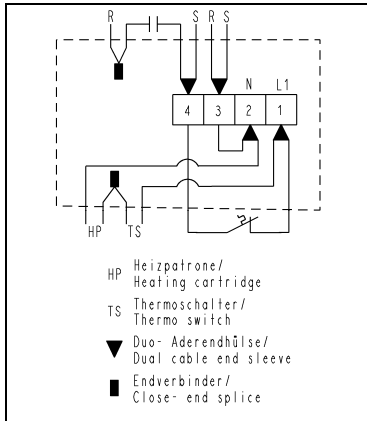

Fig. 3a: Electrical connection (.11-designs: with thermostat-regulated head heating) except for UN036_T.111)
3. Connect the mains cables to the connections L 1 and N of the terminal block (see figs. 3a, 3b or 4).